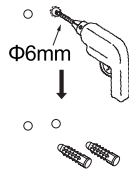

Figure 4
- c) Remove the raiser rail and drill holes on the marked position (Figure 4).